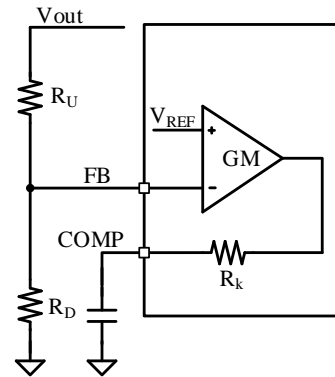

Figure 6. Output Voltage Feedback Circuit
SY22824B regulates the boost output voltage using a trans-conductance internal error amplifier (EA). The inverting terminal of the EA is pinned out to FB, the non-inverting terminal is connected to an internal 1.25V voltage reference, and the EA output is pinned out to COMP (Figure 6).